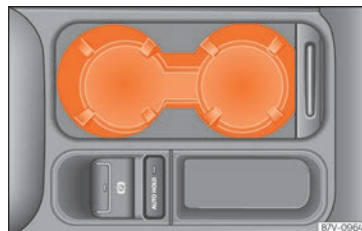

Fig. 169 Front centre console: drinks holder.
- To open, move the cover backwards »» Fig. 169.